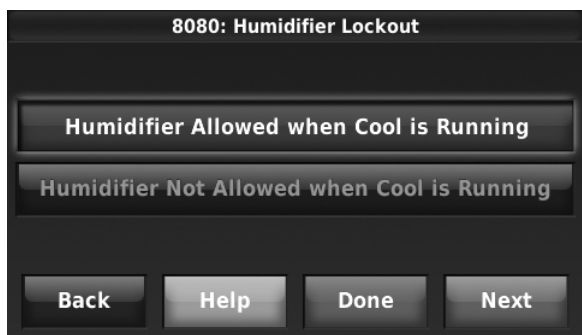

Fig. 214.
7. Set the desired lockout option. See Fig. 214.